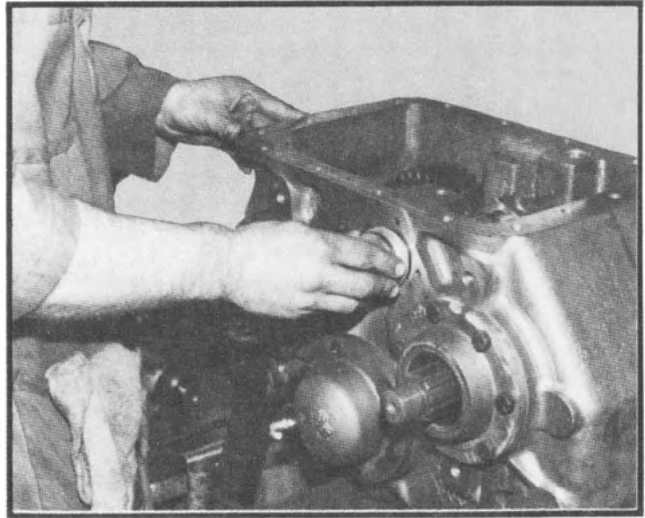

Fig. 33
1. Install two o-rings into shift cylinder adapter tube, coat adapter tube with gear lubricant, and install adapter into front of housing (See fig. 33).
1. Install two o-rings into shift cylinder adapter tube, coat adapter tube with gear lubricant, and install tube into rear of housing (See fig. 33).